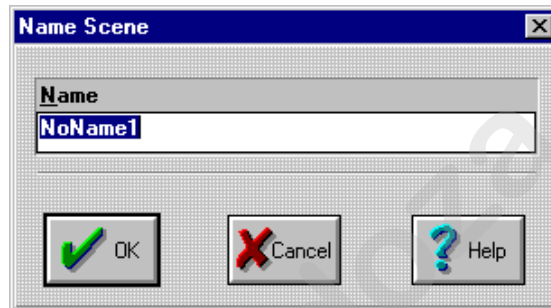

Figure 5.39. Name Scene Dialogue Box
2. Press the <NAME> key in the MEMORY key group to bring up the **Name Scene** dialogue box. Refer to Figure 5.39. Alternately, select **Name** from the **Memory** drop-down menu.